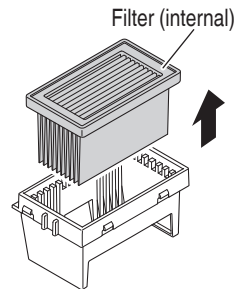

Fig. 25
- (2) Remove the filter from the inside and replace it with a new filter. (Fig. 25)